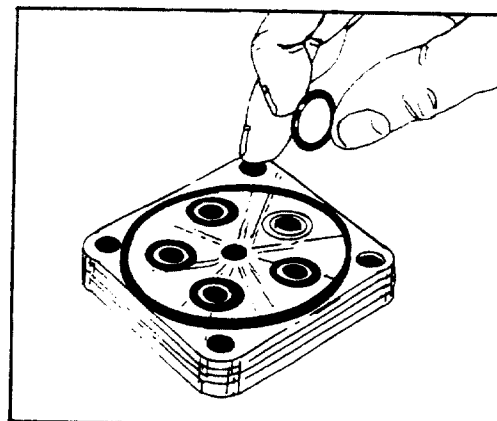

FIGURE 88.
39. Apply clean grease to the four or five O-rings (4) as required and seal ring (3). Place the new O-rings (4) and seal ring (3) into their proper location in the port cover (2). See figure 88.